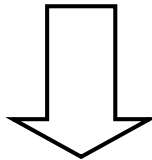

Figure 4.
3. Dependent upon label format, printing may be in one of three directions as shown in figures 4, 5 and 6.